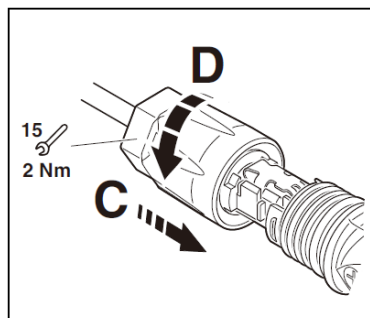

Figure 5-13
6. Push the insert into the sleeve (Figure 5-13, C).